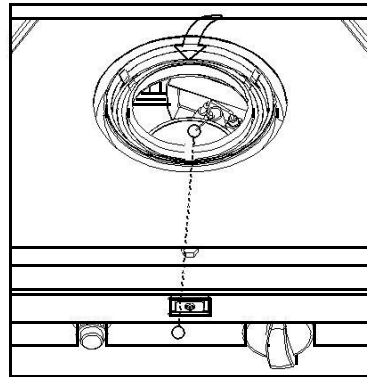

Figure 4
- As you are depressing the control knob, you can manually light with a long stem lighter (Figure 4).